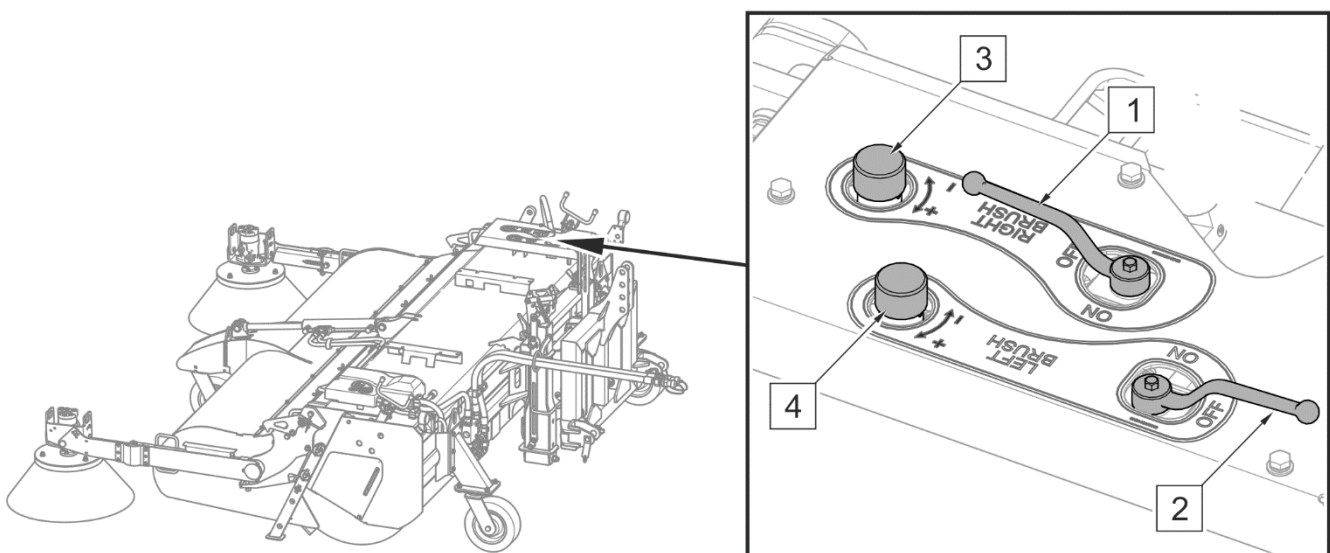

FIGURE 4.13 Control of side brush drive
The drive of the raised brush should be disconnected using the appropriate lever (FIGURE 4.13)
Depending on the machine version, the sweeper can be equipped with one or two side brushes. Each side brush can be switched on and off independently and their speed can be adjusted steplessly (FIGURE 4.13). Lever (1) is used for switching on and off the right side brush. Lever (2) is used for switching on and off the left side brush. To switch off the side brush drive, move proper lever, (1) or (2), to "OFF" position (the drive is OFF). Rotation speed of side brushes is adjusted using knobs (3) and (4).